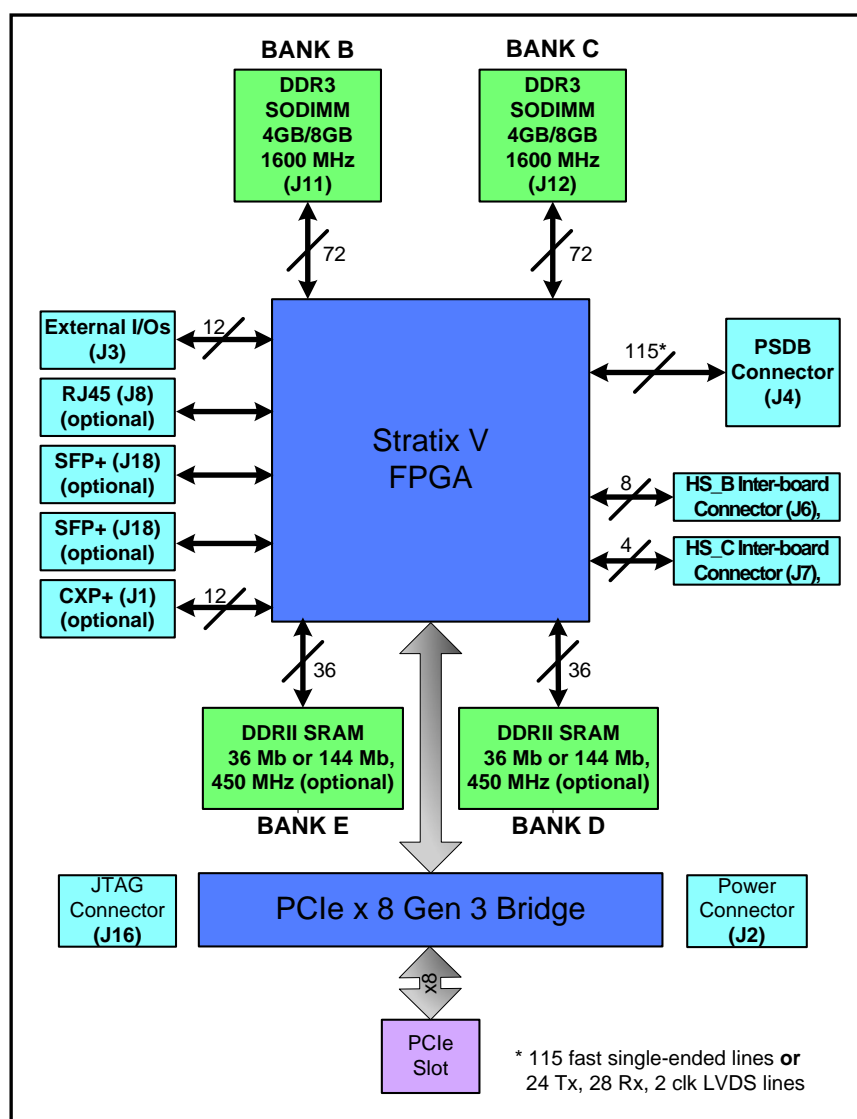

Figure 1: ProceV System Block Diagram
The **ProceV** system Block Diagram is shown in Figure 1.
**Note:** The L\_IN bus connects the FPGA to the PSDB connector **J4** as shown in Figure 1.